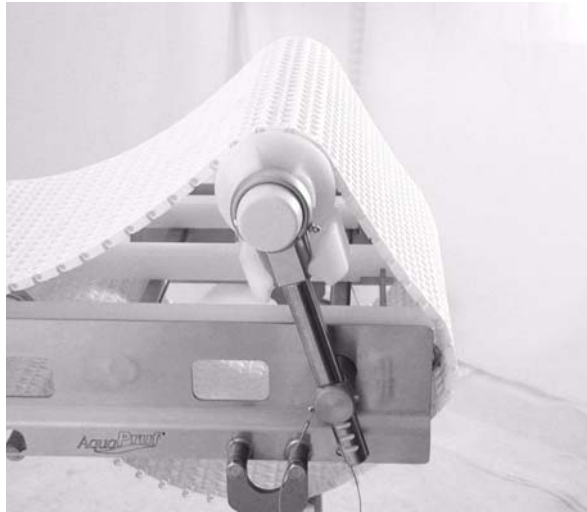

Figure 46
1. Tip up idler tail assembly (Figure 46).